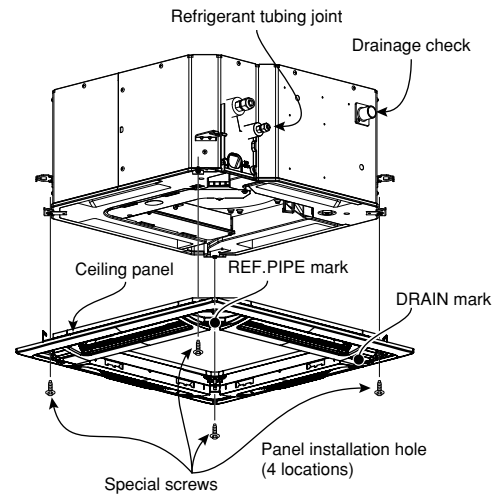
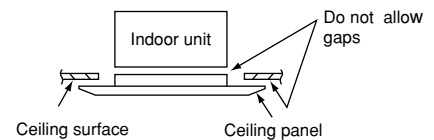

Fig. 6-18
Fig. 6-19
(2) Align the panel installation holes and the unit screw holes. (Fig. 6-18)
(3) Tighten the supplied special screws at the 4 panel installation locations so that the panel is attached tightly to the unit.
(4) Check that the panel is attached tightly to the ceiling. (Fig. 6-19)